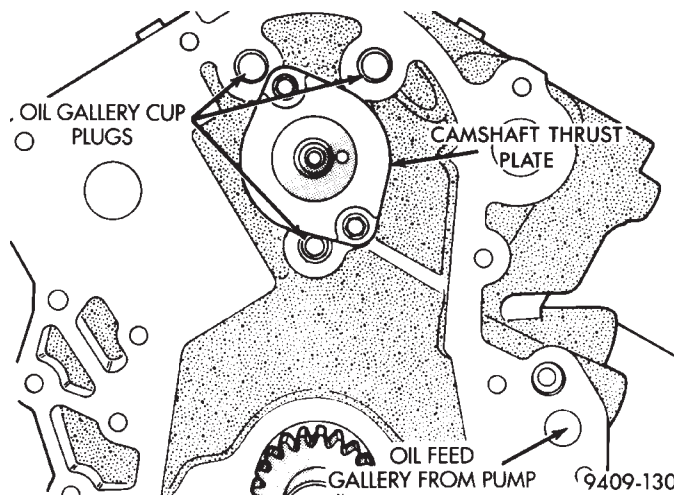
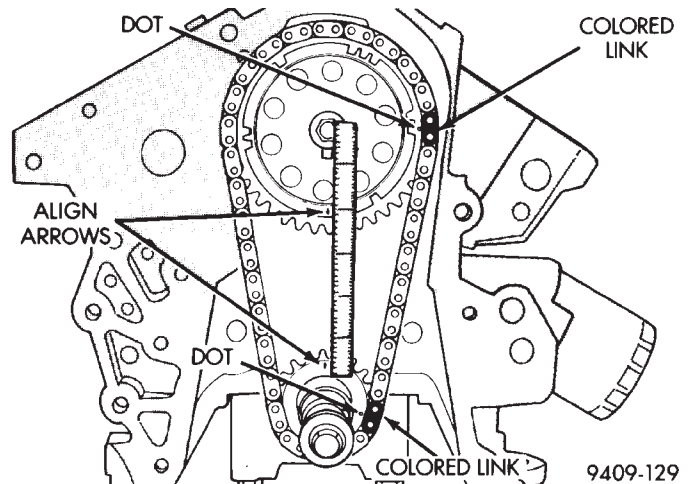

Fig. 24 Camshaft Thrust Plate
Fig. 26 Timing Marks Alignment
(1) Remove rocker arm and shaft assemblies.
(2) Remove push rods and tappets; identify so each part will be replaced in its original location.
(3) Remove camshaft thrust plate (Fig. 24).
(2) Install camshaft thrust plate with two screws as shown in (Fig. 24). Tighten to 12 N·m (105 in. lbs.) torque.
(3) Rotate crankshaft so the timing arrow is to the 12 o'clock position.
(4) Place timing chain around camshaft sprocket and place the timing arrow to the 6 o'clock position.
(5) Align the dark colored links with the dot on the camshaft sprocket, place timing chain around crankshaft sprocket with the dark colored link lined up with the dot on sprocket and install camshaft sprocket into position.
(6) Using straight edge to check alignment of timing arrows (Fig. 26).
(7) Install the camshaft bolt. Tighten bolt to 54 N·m (40 ft. lbs.).
(8) Rotate crankshaft 2 revolutions. Timing marks should line up. If timing marks do not line up, remove cam sprocket and realign.
(9) Check camshaft end play. With new thrust plate the specification is 0.0127 to 0.304 mm (0.005 to 0.012 in.). Old thrust plate specification is 0.31 mm (0.012 in.) maximum. If not within these limits install new thrust plate.
(10) Each tappet reused must be installed in the same position from which it was removed. **When camshaft is replaced, all of the tappets must be replaced.**